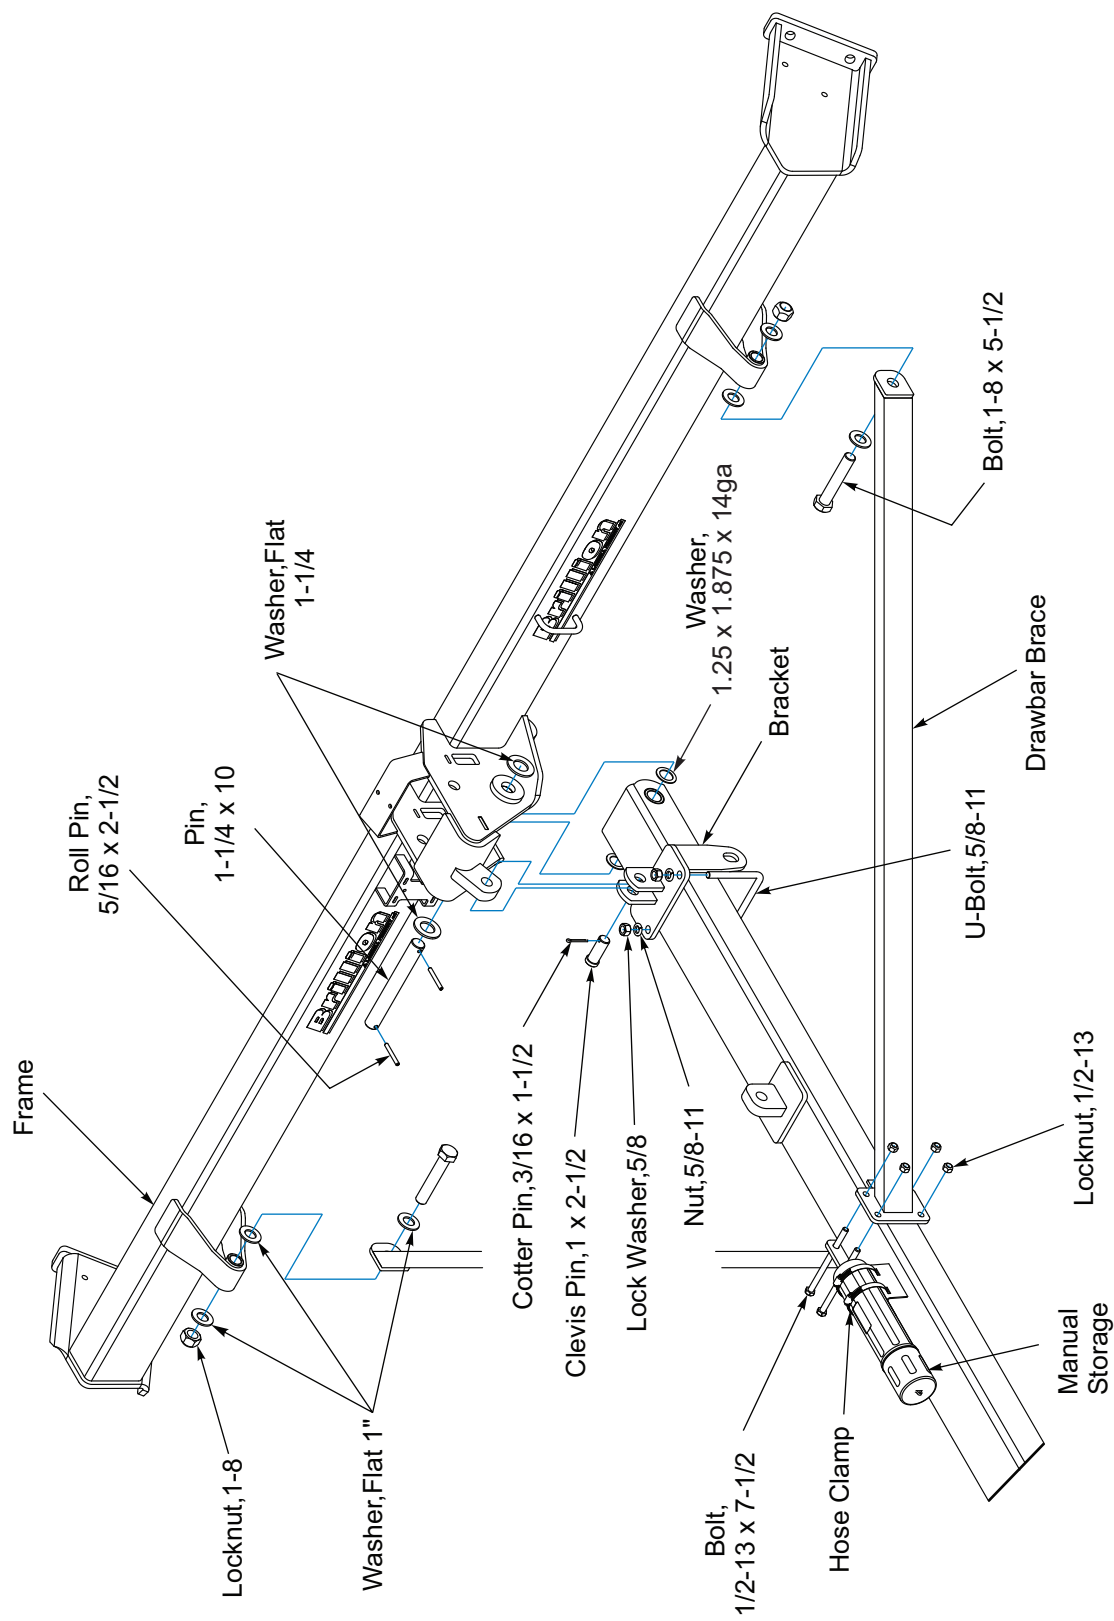

Figure 2-13: Drawbar with No Lift: Brace Installation, 10FT - 16FT Models Only
1. Bring the rear of the Drawbar into position between the Frame Hitch Plates at the center of the Frame. Place two Machinery Bushings on each side between the Drawbar and the Frame Hitch Plates. Attach the Drawbar to the Frame with 1-1/4 x 10 Pin, Flat Washers and 5/16 x 2-1/2 Roll Pins. **See Figure 2-13.**
7. Attach the Manual Storage Canister using two Hose Clamps. **See Figure 2-13.**